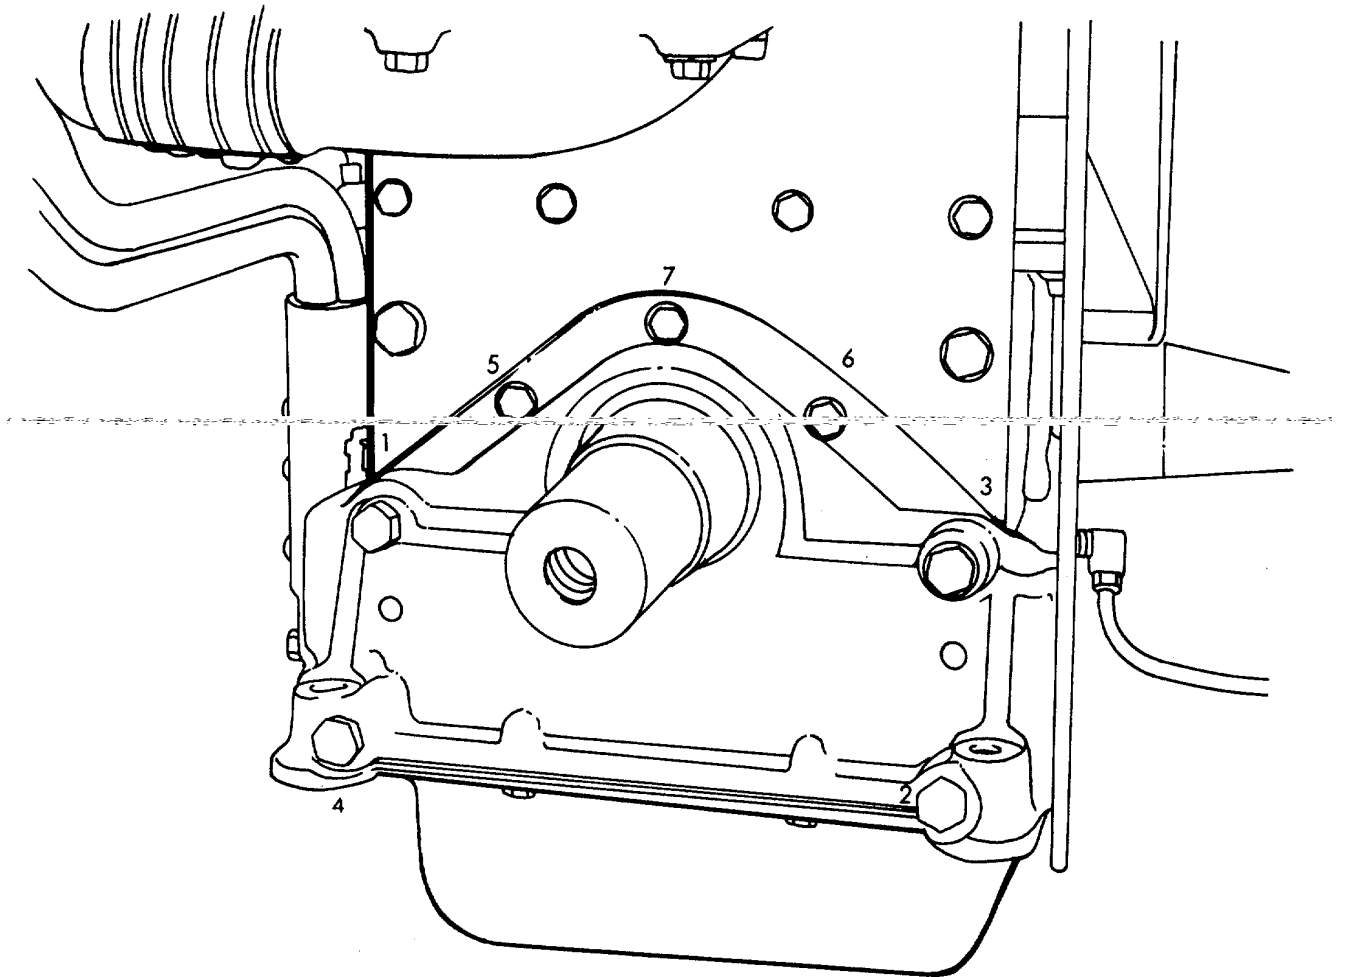

Figure 3-96. Crankshaft front cover bolt tightening sequence.
- (1) Remove oil pan (para 3-18).
- (2) Remove pulley, vibration damper and front oil seal (para 3-22).
(3) Remove the mounting bolts and washers (fig. 3-96) and remove the front cover and gasket from the end plate.
- (1) Install the crankshaft front cover by tightening the bolts in the sequence shown in figure 3-96.
- (2) Tighten 3/8" x 24 bolts to 25-30 ft-lbs. and tighten 1/2" x 13 bolts to 80-90 ft-lbs.